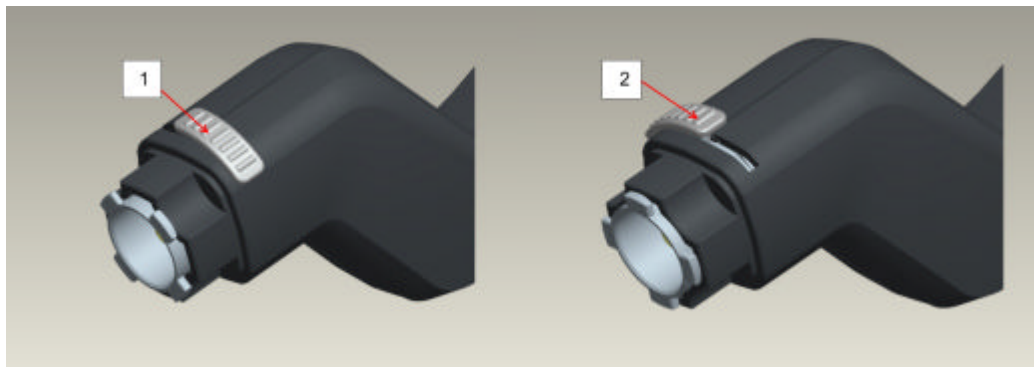

Fig. 3-5: Release switch.
1. Slide the release switch on the handle to the left (see figure 3-5, no. 2).
4. Slide the release switch back to the locked position (see figure 3-5, no. 1)